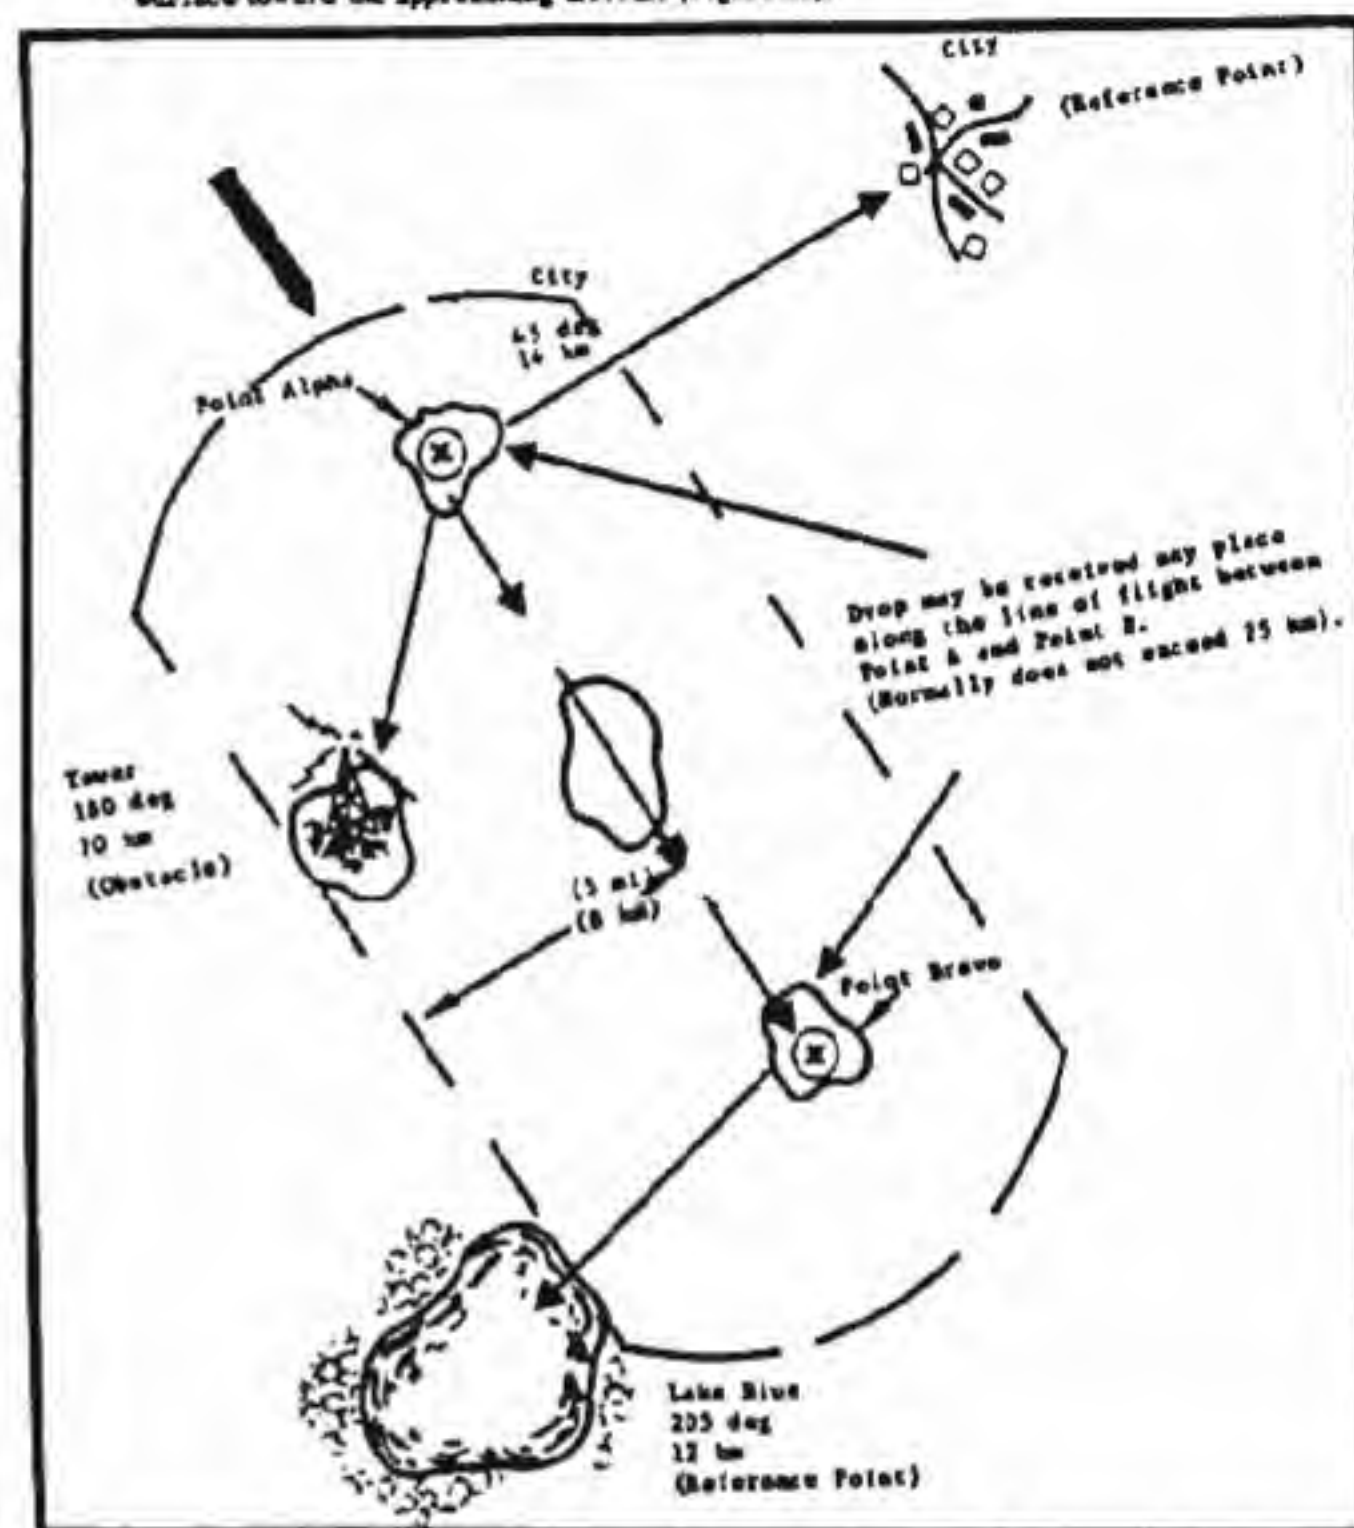

Figure 10. Obstacles and Reference Point (Area DZ)
3. When panels are used for daylight markings of DZ's, they are positioned at an angle of approximately 45° from the horizontal to present the maximum surface toward the approaching aircraft (Figure 10).